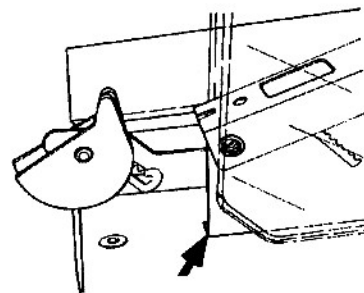

Fig. B-10
8. Check to see that the back of the riving knife does not touch the back of the table insert and has about 1/16" clearance, as shown in Fig. B-10.